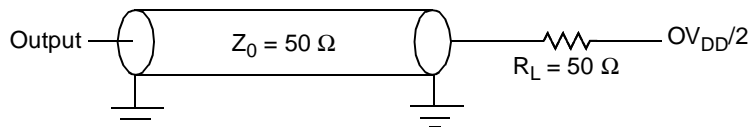

Figure 21. AC Test Load for the JTAG Interface
- All outputs are measured from the midpoint voltage of the falling/rising edge of t_{TCLK} to the midpoint of the signal in question. The output timings are measured at the pins. All output timings assume a purely resistive 50 Ω load (see Figure 21). Time-of-flight delays must be added for trace lengths, vias, and connectors in the system.
- The symbols for timing specifications follow the pattern of $t_{(first\ two\ letters\ of\ functional\ block)(signal)(state)(reference)(state)}$ for inputs and $t_{(first\ two\ letters\ of\ functional\ block)(reference)(state)(signal)(state)}$ for outputs. For example, t_{JTDVXH} symbolizes JTAG device timing (JT) with respect to the time data input signals (D) reaching the valid state (V) relative to the t_{JTG} clock reference (K) going to the high (H) state or setup time. Also, t_{JTDXKH} symbolizes JTAG timing (JT) with respect to the time data input signals (D) went invalid (X) relative to the t_{JTG} clock reference (K) going to the high (H) state. In general, the clock reference symbol is based on three letters representing the clock of a particular function. For rise and fall times, the latter convention is used with the appropriate letter: R (rise) or F (fall).
Figure 21 provides the AC test load for TDO and the boundary-scan outputs of the MPC8343E.